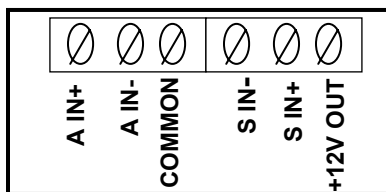

Figure 24
7. Insert the sensor’s +DC power input wire into the **+12V OUT terminal** and secure the wire by turning the terminal’s screw clockwise. *(Refer to the MX001 box or to figure 24 for the order of the terminals for the sensor wires.)*